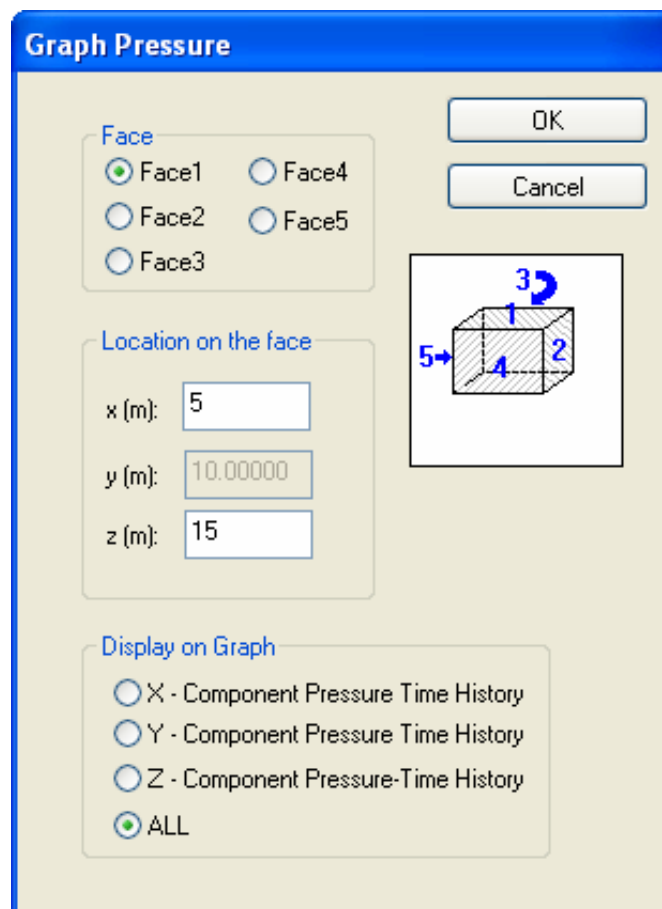

Figure 15 Example Graph Pressure dialog box.
9. Select the **Blast Pressures/Pressure-Time Profile** menu to bring up the Graph Pressure dialog box and enter the location of the centre of the roof as shown in Figure 15. Select **ALL** so all component pressure-time histories can be seen on the graph.